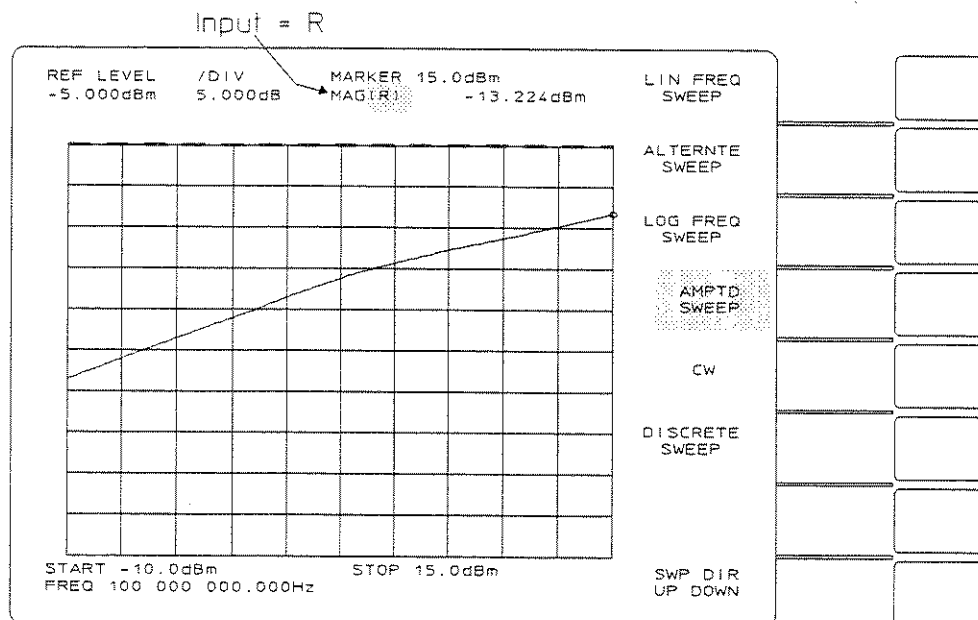

Figure 2-34. Amplitude Sweep of an Amplifier
2. The plot shown in figure 2-34 is output level versus input level. To display gain compression (input versus gain), the trace must be normalized.